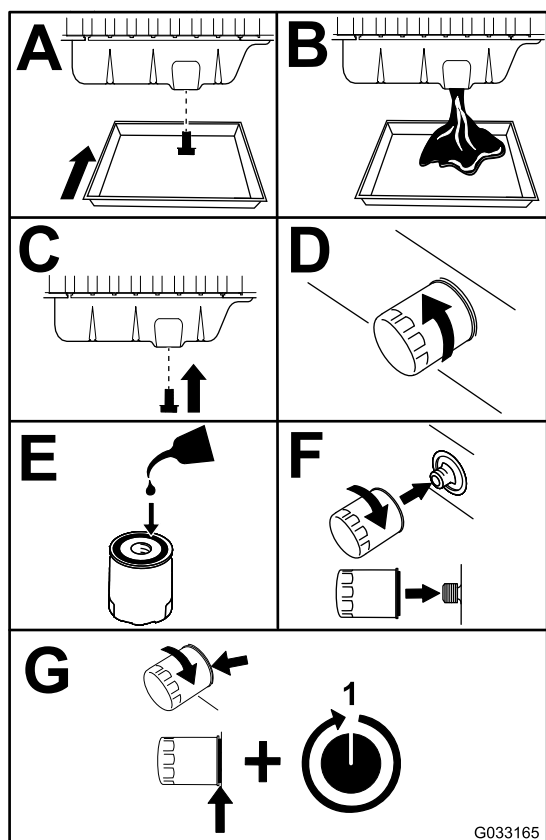

Figure 71
3. Replace the engine oil and filter (Figure 71).